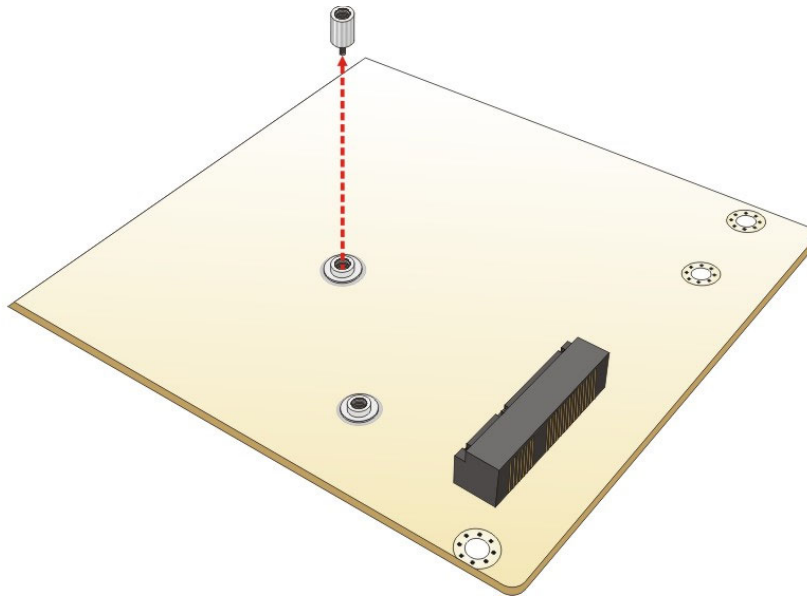

Figure 4-10: Removing the Standoff
Step 3: **Remove the standoff.** Unscrew and remove the standoff secured on the motherboard as shown in **Figure 4-10**.